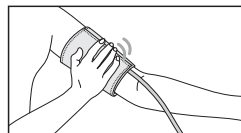

Fig. 9
4. Fix the cuff so that it fits tightly to the arm, but see that it is not overtight. Too tight or too free placement of the cuff may give inaccurate readings (Fig. 9).